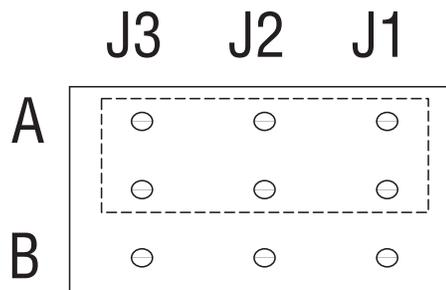

Figure 3
**Setting Min/Max Display Value J1, J2, J3 (See Figure 3 & 4):**
J1, J2 & J3 should be all set to the top jumper (See Figure 3).